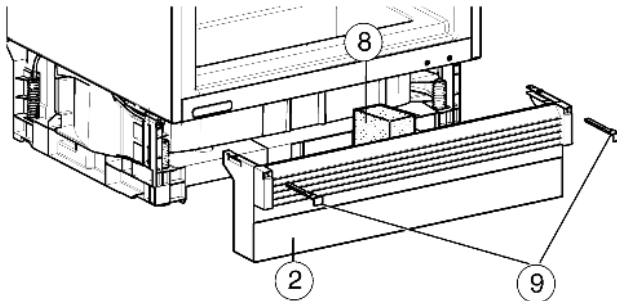

Fig. 13
- ▶ Insert foam element Fig. 13 (8) - functionally important for separate air currents!
- ▶ Replace the plinth panel Fig. 13 (2).
- ▶ If the plinth panel Fig. 13 (2) is visible, pull it forward until the front edge of the ventilation grid and the unit plinth panel are in line.
- ▶ If the plinth panel Fig. 13 (2) is hidden, push it right back.
- ▶ To fix the plinth: Insert the bolts Fig. 13 (9), while keeping firm hold of the plinth.